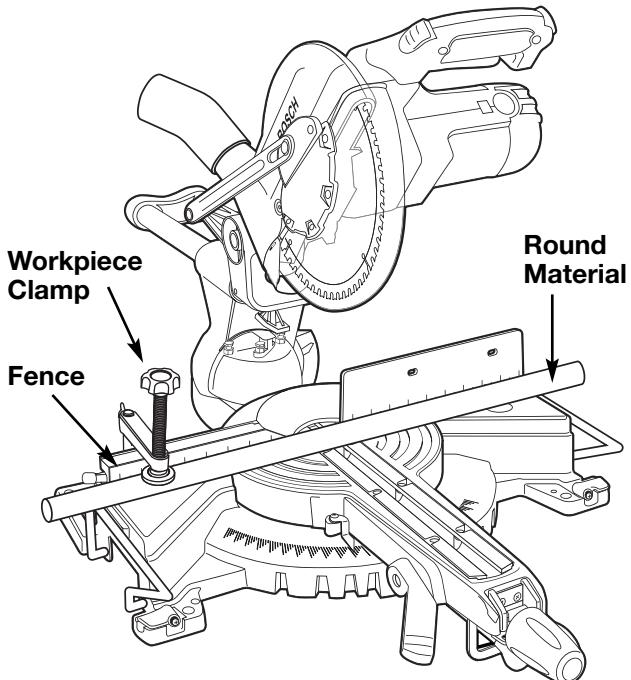

Figure 36. Round Material
**! WARNING** For round material such as dowel rods or tubing, always use a clamp or a fixture designed to clamp the workpiece firmly against the fence and table. Rods have a tendency to roll while being cut, causing the blade to "bite" and pull the work with your hand into the blade (Figure 36).